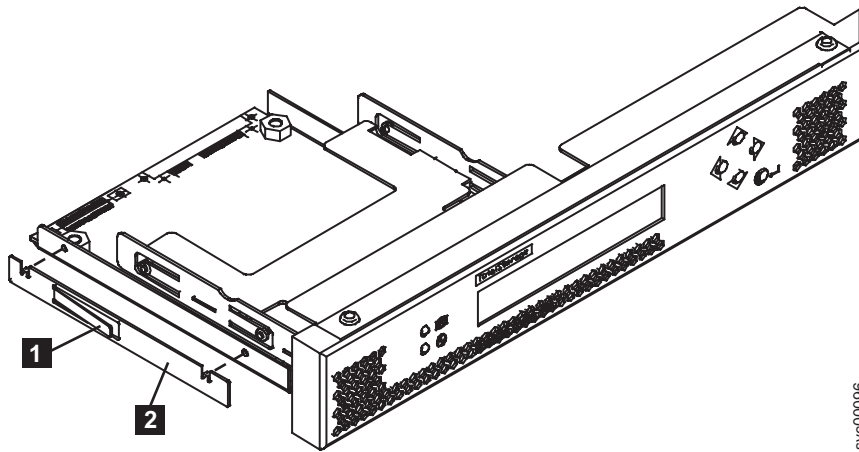

Figure 88. SAN Volume Controller 2145-8F2 or SAN Volume Controller 2145-8F4 service controller
1. Place the retention clip (**2** in Figure 88 on page 101) over the locating holes on the left side of the service controller.